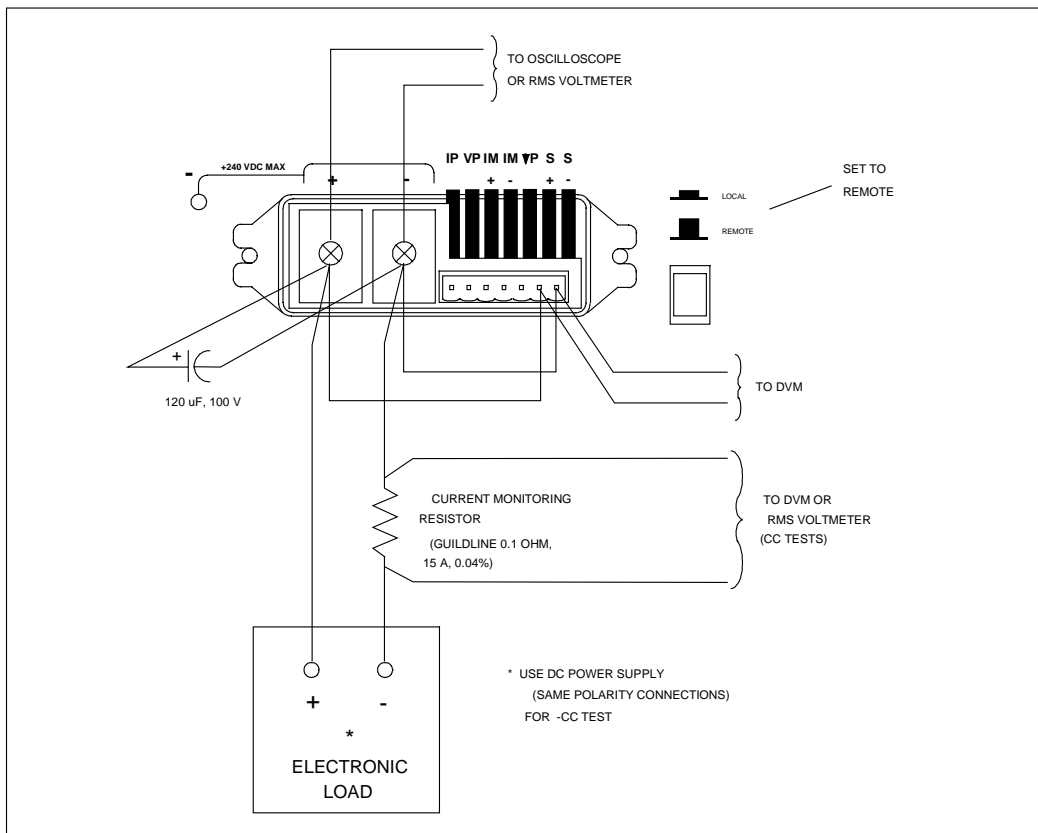

Figure 2-1. Basic Test Setup
- Basic Test Setup (Figure 2-1)
Note All tests are performed in the **FIXED** as shown in Figure 2-1.